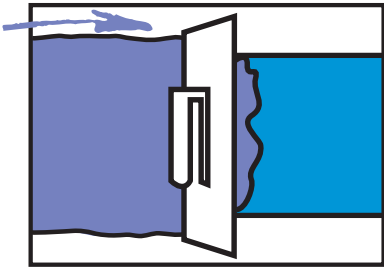

FIGURE 10 Finish Coat
- Use a 280mm trowel to apply a third coat of compound. [Refer to Figure 10] [Refer to Figure 7 for minimum coat widths]